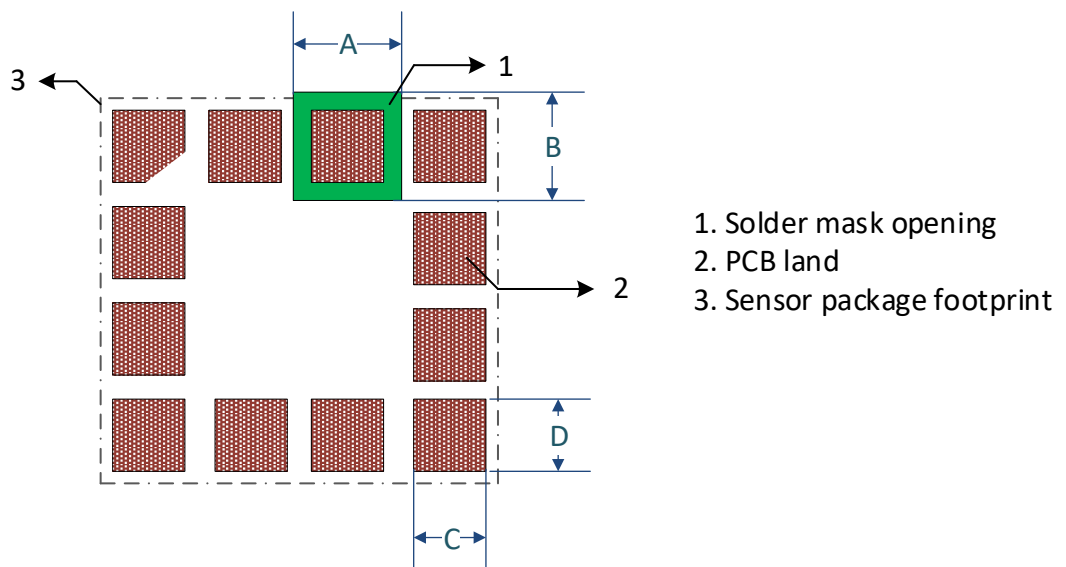

Figure 37: PCB land and solder mask recommendations for sensors with LGA package
- The solder mask opening external to the PCB land is highly recommended. Please refer to figure 37.